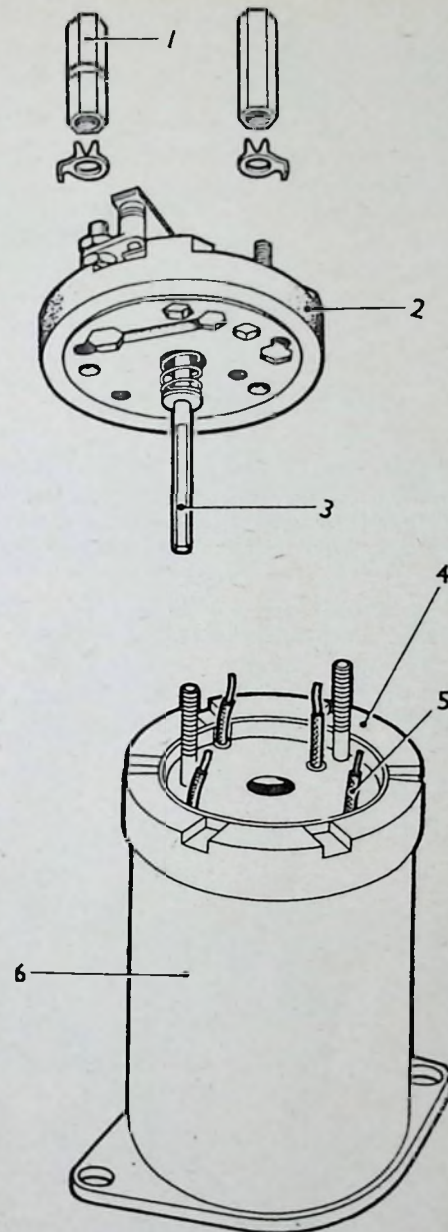
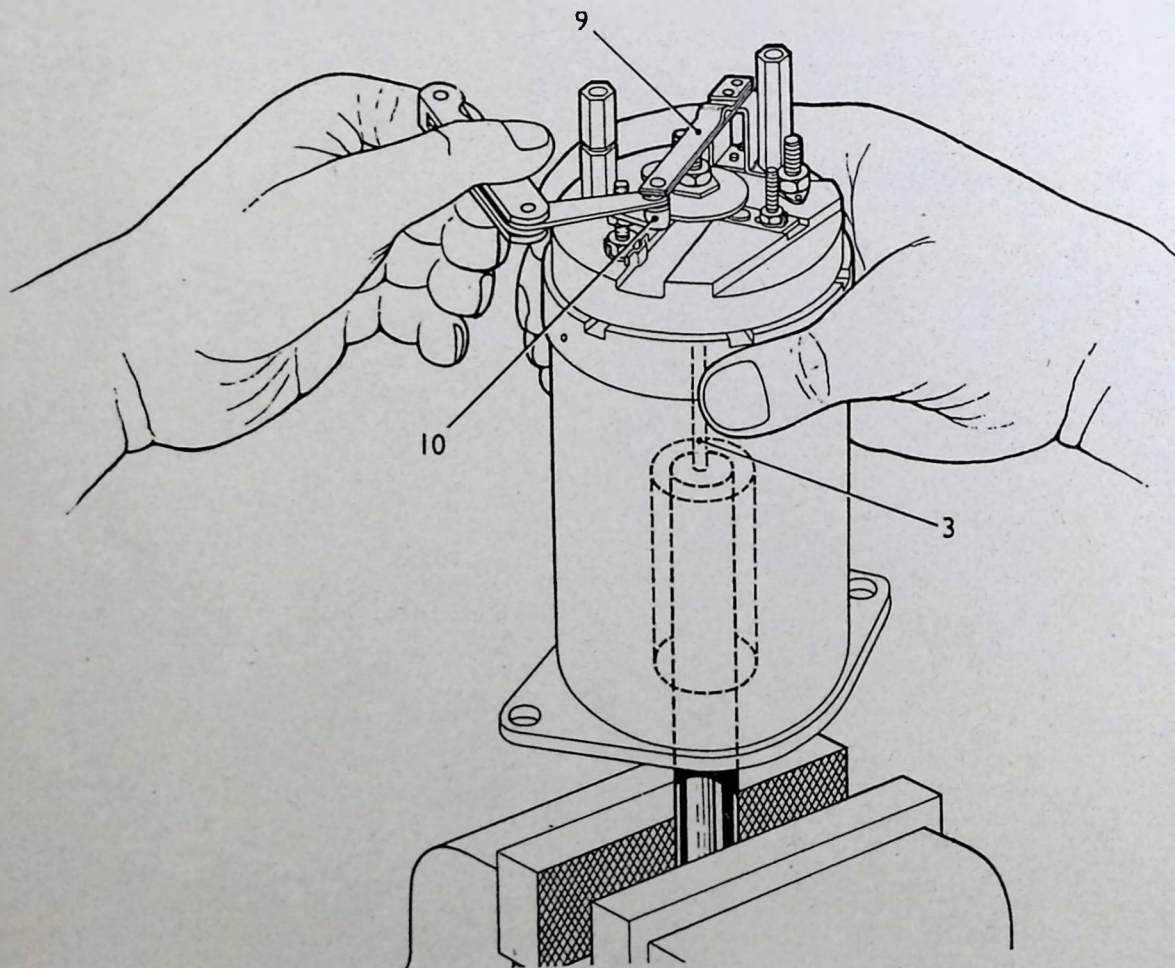
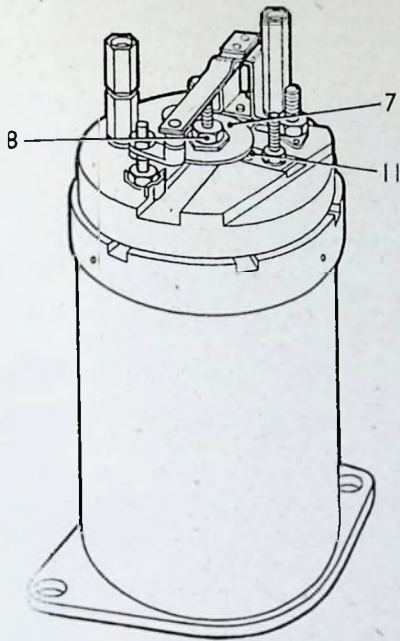

FIG. 53.—Removing contact moulding.
FIG. 55 — Main contact gap.
FIG. 56.—Dog switch details.
Remove the two countersunk screws and lift off solenoid cover. Straighten lock washers and remove hexagon pillars (1, Fig. 53). Remove solenoid switch moving contact (9, Fig. 55), and 2 BA nut from No. 1 terminal. Unsolder the four lead ends (5), straighten leads and lift off insulated switch assembly (2) vertically, together with plunger (3). To dismantle plunger, unscrew locknut (8, Fig. 56) and contact disc (7) using special ring spanners (RG 262).
To set solenoid switch contact gap (9 and 10, Fig. 55): Use a suitable mandrel $\frac{3}{8}$ " max. dia. (19 mm.) \times 3" min. length (76 mm.) with one end square to axis and flat) to raise plunger (3) to full extent (with flat end of mandrel), and adjust contact gap to .015"-.020".
In preparation for final adjustment of the dog switch contacts when solenoid is assembled to gear-box, the nut for adjusting DS contacts (7, Fig. 56) should be screwed to an approximately central position.
Test tension of solenoid switch contact spring (9, Fig. 55) with a spring balance. The force necessary to open the contacts, measured at the extremity, should be between 2.5 and 4.5 lb.